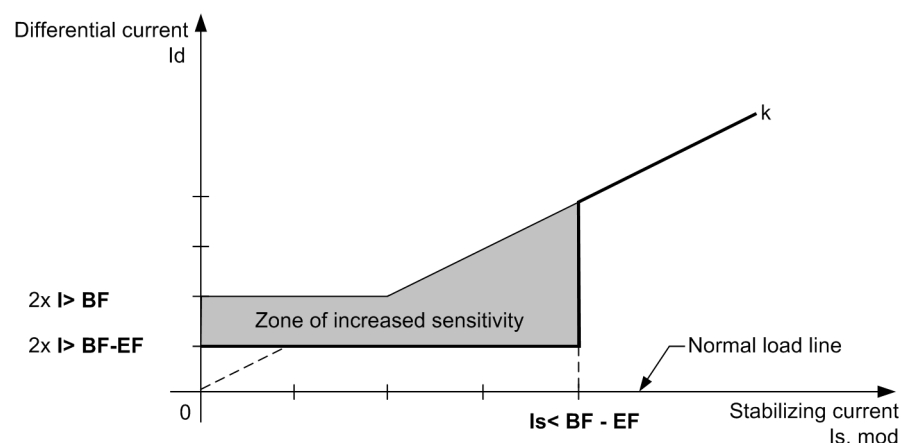

Figure 5-16 Characteristics of the breaker failure protection
The unbalanced mode has two separate parameter sets, one for 1-pole high-resistance earth faults and the other for multi-pole faults. Figure 5-16, page 114, shows the characteristics and the setting parameters.
**$I > BF - EF$  (XX19 / CU)** and  **$I s < BF - EF$  (6202A / CU)** apply. The stabilizing factor is identical with the standard characteristic. The marshallable binary input ">EF char-act." (**FNo. 10478 / CU**) in the central unit allows to switch over between characteristics, provided that the parameter **EF charact. (6320A / CU)** is set to **released**. Figure 5-16, page 114, shows the characteristics and the setting parameters.
The **BZ unbalance** mode has two separate parameter sets, one for 1-pole earth faults and the other for multi-pole faults. The sensitive earth fault characteristic is released by a binary input in the central unit. Figure 5-16, page 114 shows the characteristics and the settings.